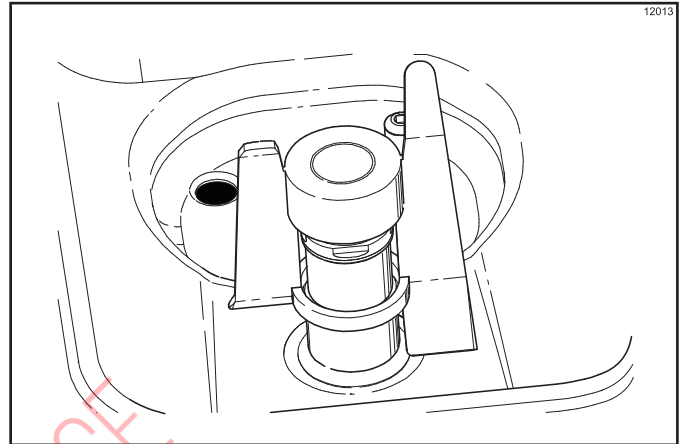

Figure 6-39
14. Place the agitator on the agitator driveshaft housing. (See Figure 6-39.)